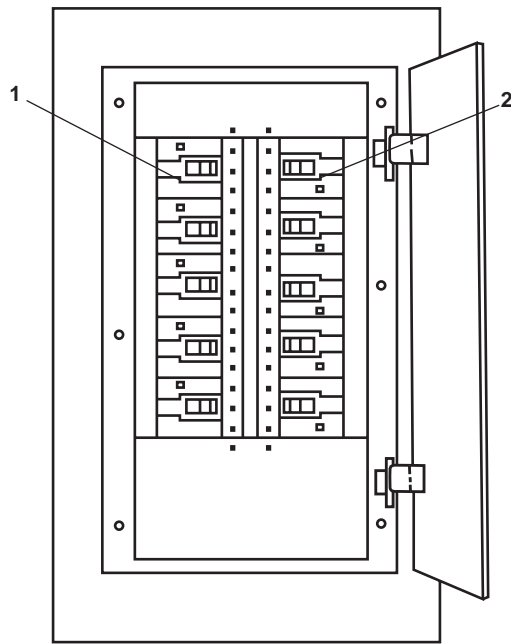

Figure 4. 440V Power Panel No. 4
9. At 440V power panel No. 4 (figure 4), set the following circuit breakers to ON:
- a. AIR COMPRESSOR No. 1. (figure 4, item 1)
- b. AIR COMPRESSOR No. 2. (figure 4, item 2)